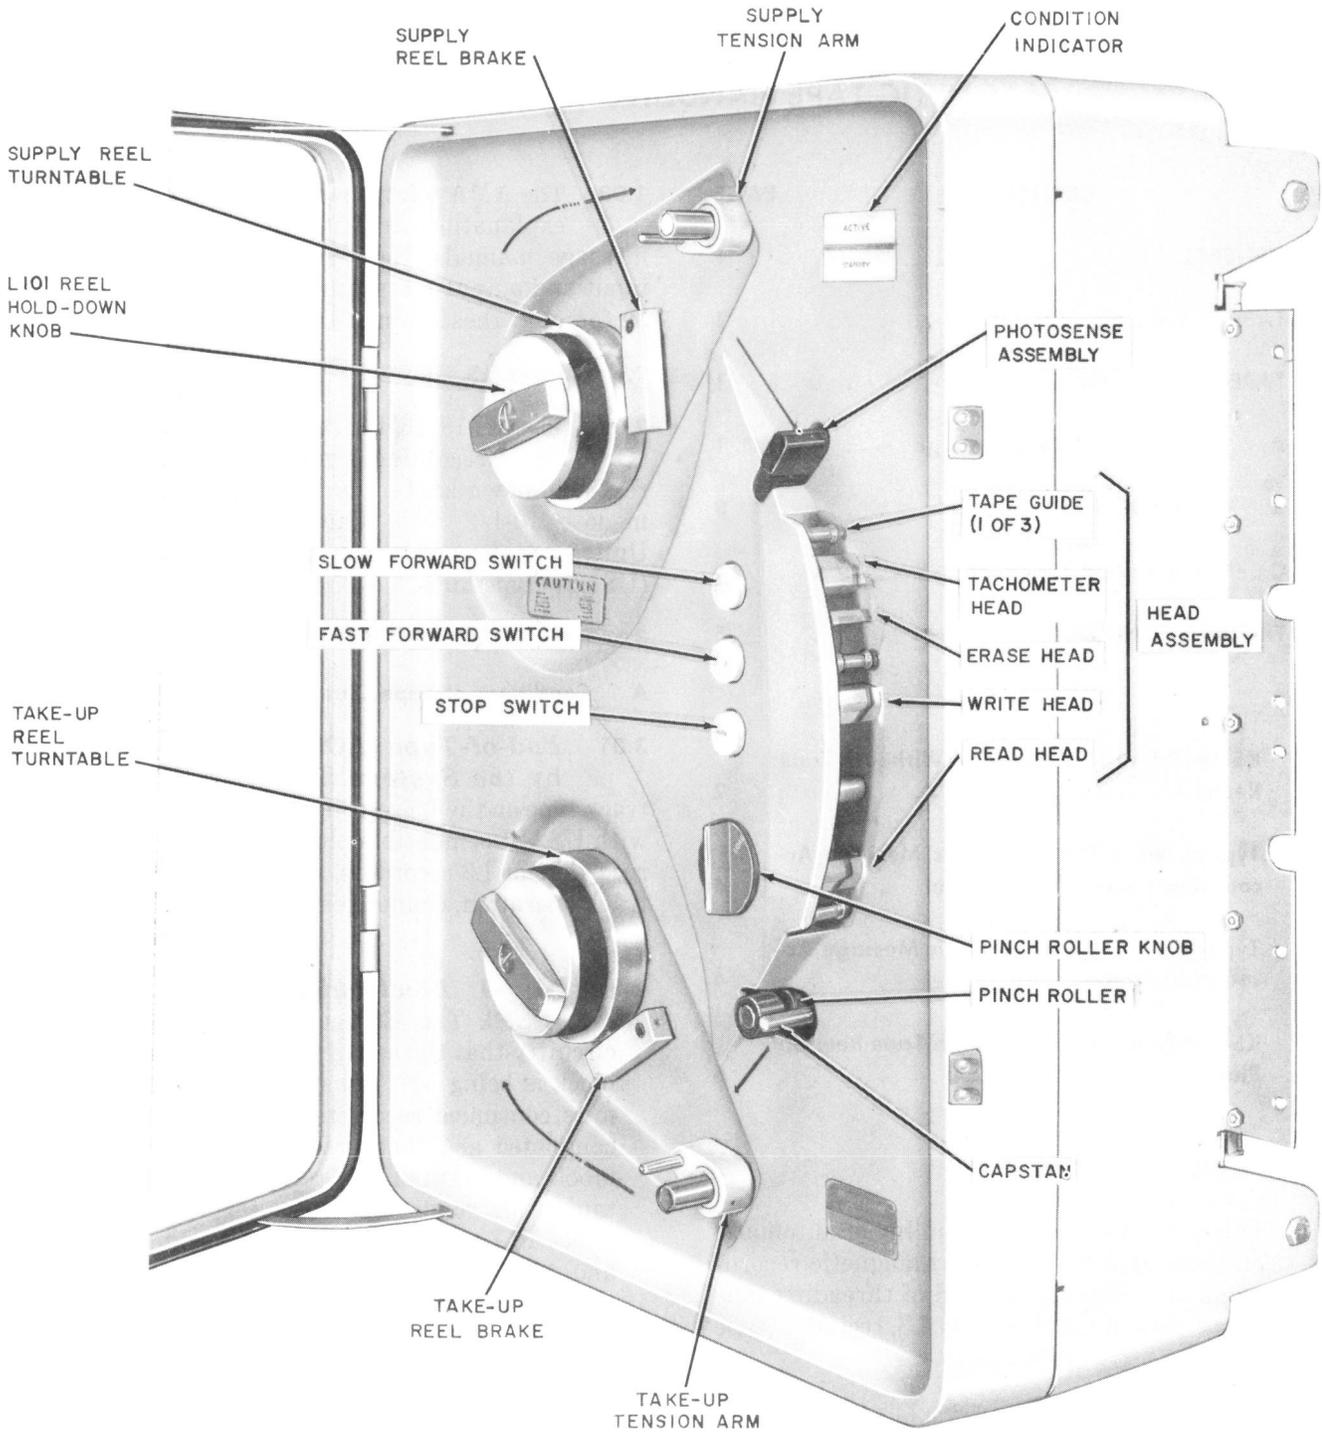

Fig. 1—KS-19125, L3, Recorder (Without Tape Reels)
2.01 The KS-19125, L3, recorder (Fig. 1), used in 9-track recording systems, is furnished with reel hold-down knobs which are designed to accommodate 10-1/2 inch diameter tape reels having United States of America Standards Institute (USASI) type hubs.
- (4) At the AMA tape recorder panel (Fig. 1), depress FAST FORWARD switch to wind remaining supply reel tape on take-up reel. Depress STOP switch just before completion of winding. This operation is necessary to prevent the end of the tape from whipping if it runs off the reel.
- (5) Turn the pinch roller knob to LOAD. This operation retracts the pinch roller from the tape drive capstan. Carefully grasping the outer edge of reel flange or the hold-down knob (reel locking bar), manually rotate the take-up reel clockwise until the remaining supply reel tape has been wound on the take-up reel.
- (6) Carefully hold the take-up reel by the outer edge of the outer flange or reel hub so it cannot rotate; then manually rotate the reel hold-down knob approximately a full turn counterclockwise to loosen reel on turntable and remove the reel from tape transport.
- (7) If new tapes are furnished with a tape-end retainer (block of sponge-like rubber), it is recommended that this retainer be reused in the reel of completed tape to prevent loss of tape tension on the reel during shipment to the data processing center.
- (8) Place the reel in a clean, dust-free reel container.
- (1) Turn pinch roller knob on the transport panel (Fig. 1) to LOAD position.
- (2) Remove the empty supply reel (upper reel) as described in subparagraph 3.04(6).
- (3) **Caution: Avoid pulling or pushing on the reel flanges when mounting reel on tape transport; apply force to the reel hub only.** Transfer the empty reel to the take-up reel turntable with the groove facing inward, making certain that the reel hold-down knob is in the unlocked position that permits the reel to be freely positioned over the hold-down assembly. Push the reel firmly against the turntable surface and turn the reel hold-down knob clockwise until firmly secured. Make certain the reel is securely mounted on the hold-down assembly and is flush against the turntable. Check the motion of the reel on the take-up turntable for wobble, warpage, and proper positioning by manually rotating the reel clockwise several times.
- (4) Carefully remove the new reel of tape from its container. **Caution: Some reels come equipped with a write-enable ring. This removable ring is not required for AMA recording and shall be removed from hub of**